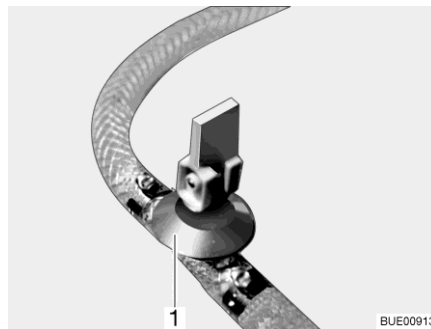
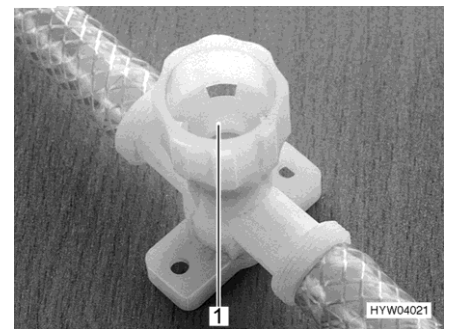

Fig. 182 Drain cock (with rocking lever)
Fig. 183 Drain cock (with twist cap)
- Close all drain cocks. To do this, position the drain cock's rocking lever (Fig. 182,1) horizontally or turn the drain cock's cap (Fig. 183,1) in a clockwise direction.